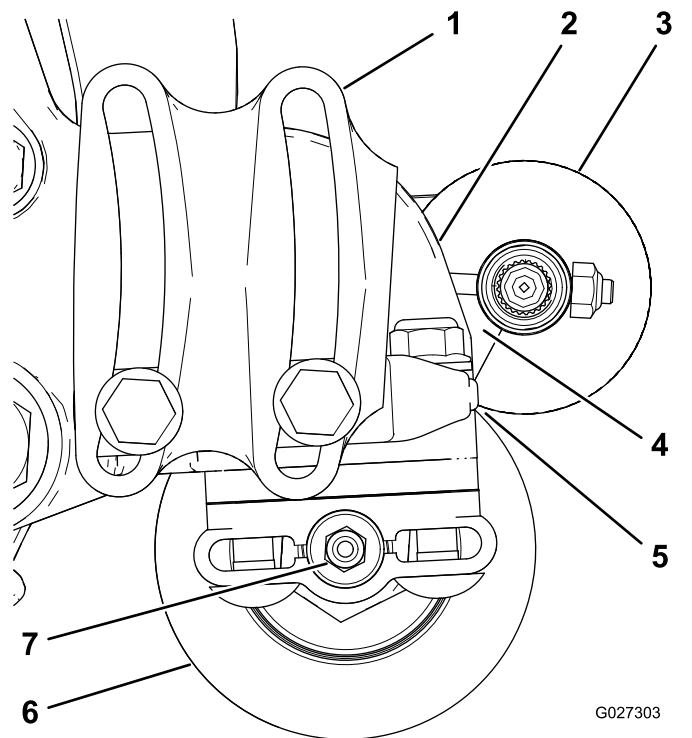

Figure 14
2. Position the roller brush so that it is just touching or resting on the rear roller (Figure 14).